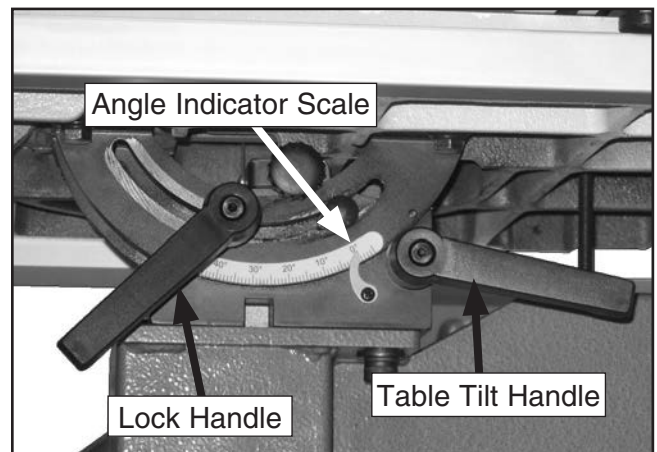

Figure 34. Table tilt controls.
2. Loosen the lock handle on the table trunnion shown in **Figure 34**.